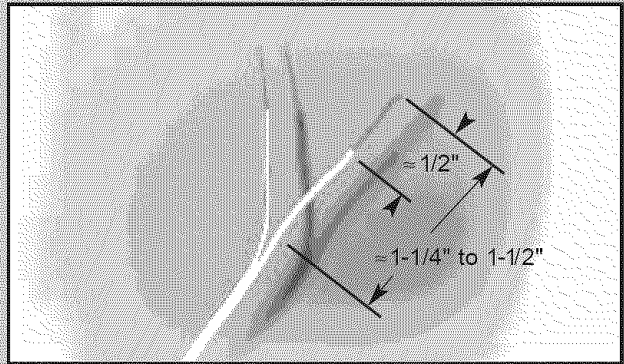

Fig. 3-6
- Split and strip wire ends to be connected as shown **Fig. 3-6**.